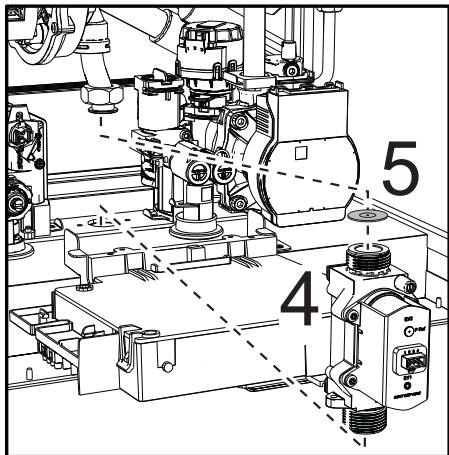

fig. 45
- Remove the gas valve “4” and the gas diaphragm “5” (fig. 45).